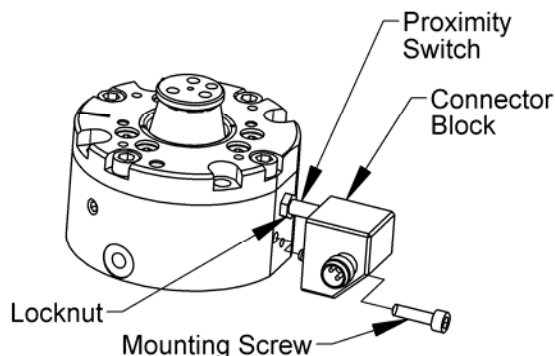

Figure 5.1—Removal of Switch/Connector Block Assembly from the Protector™
5. Loosen and remove the screw holding the connector block in place (see Figure 5.1).
1. Remove the mounting screw using a 2.5mm hex key (see Figure 5.1).